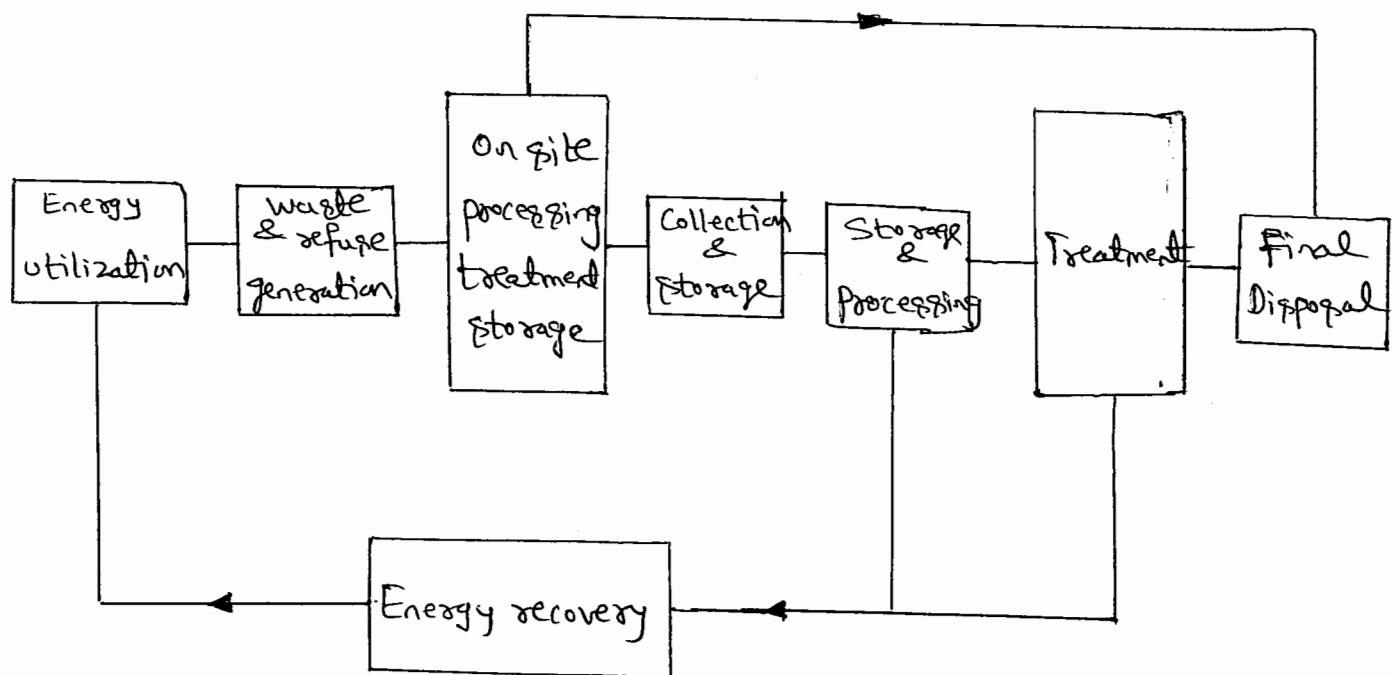

Figure 1. Schematic representation of waste refuse energy management.
* A simple waste, refuse resource recovery scheme can be understood from Figure 1. which represents the various important scheme components as energy use & solid waste generation, transportation, storage, energy recovery, treatment & final disposal of the waste.